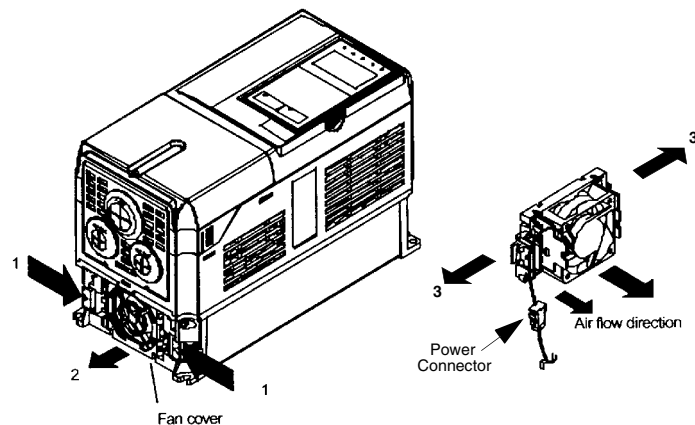

Fig 7.1 Cooling Fan Replacement Procedure
3. Pull out the cable connected to the fan from the fan cover and disconnect the power connector. See Fig 7.1.